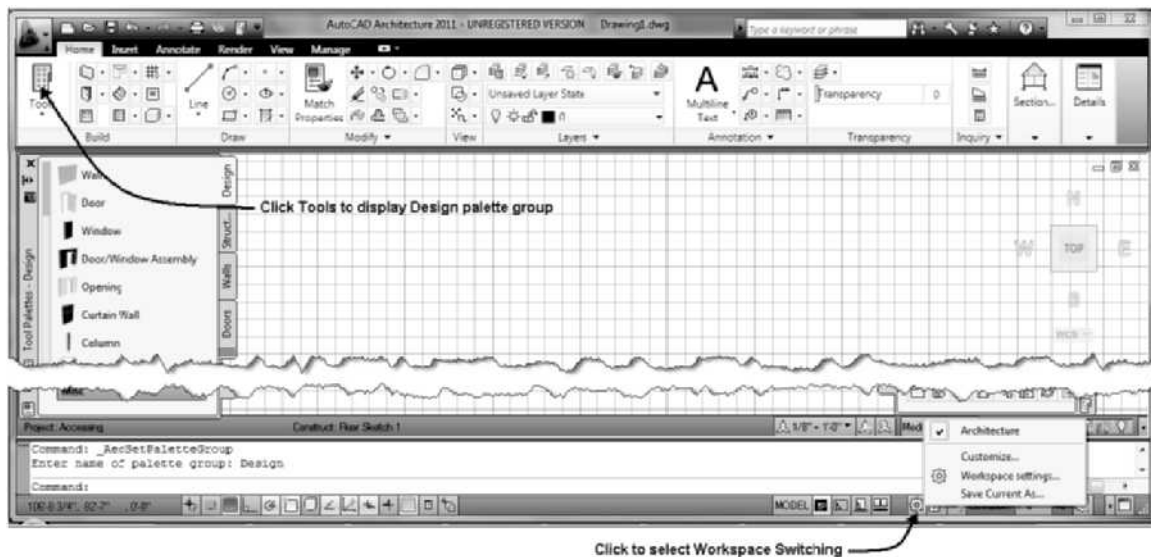

FIGURE 1.34 Accessing the Design palette group from the Ribbon
13. Click the Tools button of the Build panel to display the Design tool palette group as shown in Figure 1.34.
14. Choose the flyout of the Workspace Switching toggle shown in Figure 1.34 located at right in the Application status bar. Select the Architecture workspace. The screen will flash to display the content of the Architecture workspace. Verify that the Home tab is current and the Design palette group is displayed at left.